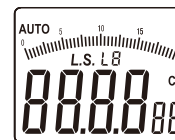

Figure 3-6-3
- Hold the "Lx/Fc/CD" button to save the distance and the LCD display will now show the measured light intensity measurement (as shown in figure 3-6-3).